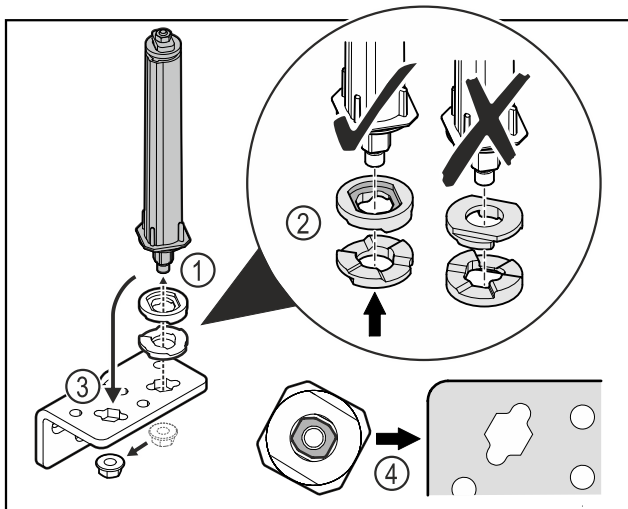

Fig. 16
- ▶ Loosen the nut and remove the door closing system Fig. 16 (1).
- ▶ Observe the correct alignment of the height adjustment washers Fig. 16 (2).
- ▶ Put the door closing system in the hinge and fix in place with the nut Fig. 16 (3).
- ▶ Observe the correct alignment of the door closing system when doing so Fig. 16 (4).